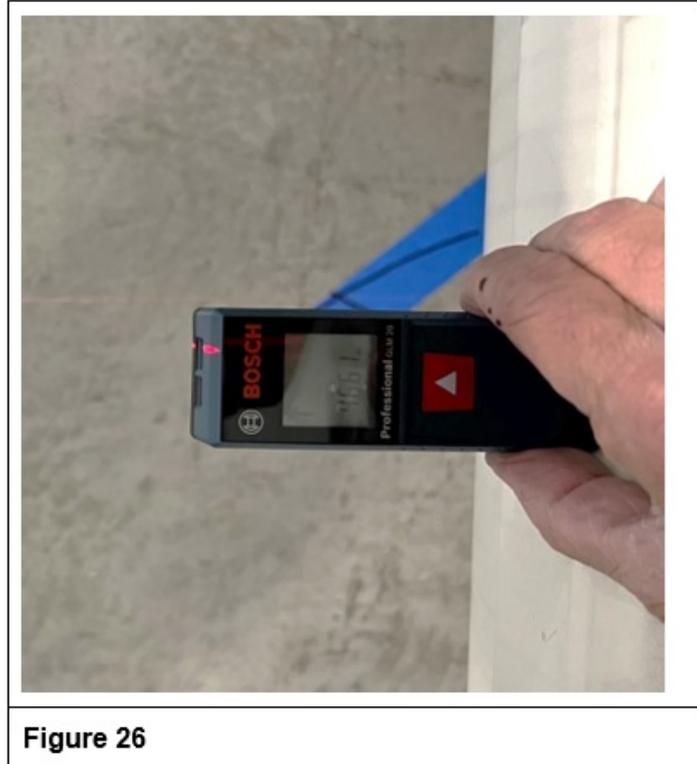

Figure 26
35. Turn on the Laser Measuring Tool (Special Tool J-53207) and place it against the center of the vehicle's front bumper cover facing forward. (See Figure 26.)